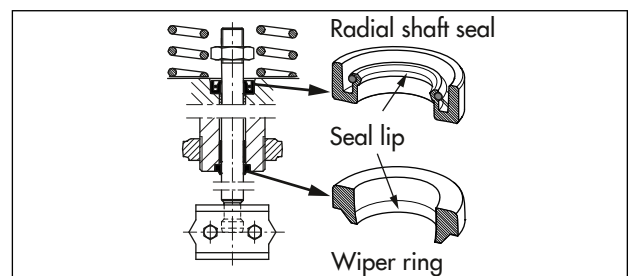

Fig. 14: Aligning the radial shaft seal and wiper ring
6. Use a suitable tool to mount the radial shaft seal. Observe the correct alignment of the radial shaft seal (see Fig. 14).